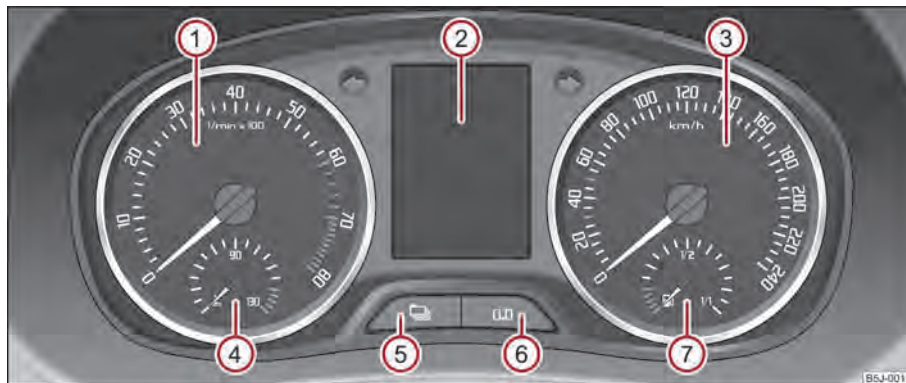

Fig. 2 Instrument cluster
The red zone of the rev counter scale ① ⇒ fig. 2 indicates the range in which the engine control unit begins to limit the engine speed. The engine control unit restricts the engine speed to a steady limit value.
The coolant temperature gauge ④ ⇒ fig. 2 operates only when the ignition is switched on.
The fuel gauge ⑦ ⇒ fig. 2 only operates when the ignition is switched on.
If you hold the reset button  ⇒ fig. 2 pressed for about 1 second, the trip counter is set back to zero.